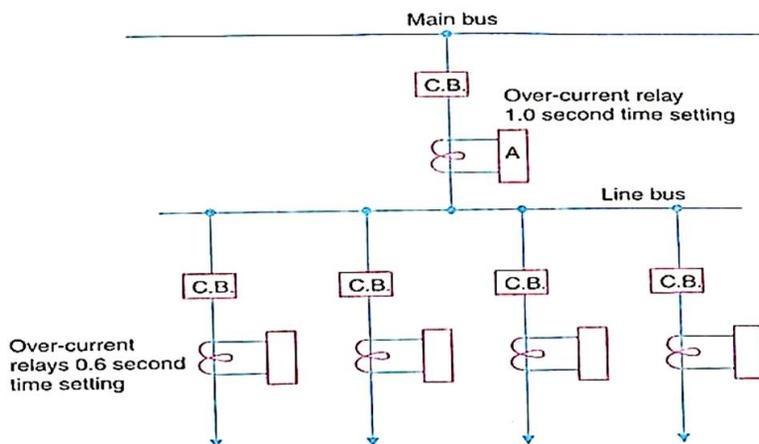

Figure 1.9 : The primary and secondary protection
The primary protection system is one that is designed to protect the power system's component parts. In Figure 1.9, each line has an over-current relay to protects the line. If a fault occurs on any line, the relay and circuit breakers will clear it.
**Secondary protection** is the second line of defense in case of failure of the primary protection. It is designed to operate with sufficient time delay so that primary relaying will be given enough time to function if it is able to. Thus, referring Figure 1.9, relay A provided backup protection for each of the four lines. If a line fault is not cleared by its relay and breaker, the group breaker's relay A will activate after a set time period and clear the entire group of lines. When backup relaying is used, a larger part of the circuit is disconnected than when primary relaying is used correctly. As a result, a greater emphasis should be made on improving primary relaying maintenance.